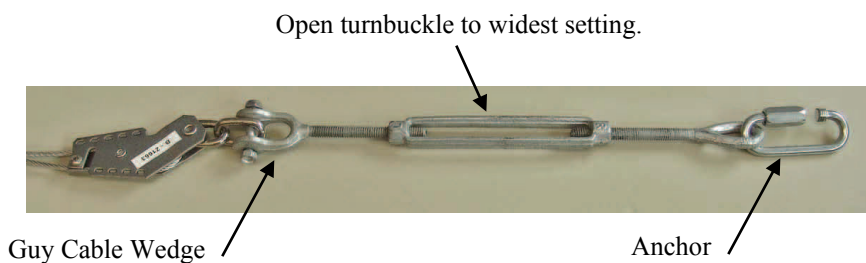

FIGURE 3-25. Turnbuckle fastened to guy cable and anchor
Step 6: Attach guy wires to anchors by first opening the turnbuckle to the widest setting. Attach turnbuckle to wedge end of the guy cable, and then attach the other end of the turnbuckle to an anchor (see FIGURE 3-25).